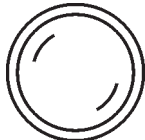

Figure 42. MPEC Control Switch (Manual Position)
2. Place the **MPEC Control Switch** in the **MANUAL** position to start the engine (Figure 42). Observe that the Warning and Emergency Stop lamps on the Engine Operating Panel are lit during the initial starting of the engine. If no abnormal conditions exists, both lamps will turn off.
- Place the **MPEC Control Switch** (Figure 42) in the **OFF/RESET** position.
- To restart the engine due to error codes, place the **MPEC Control Switch** in the **MANUAL** position (Figure 42)